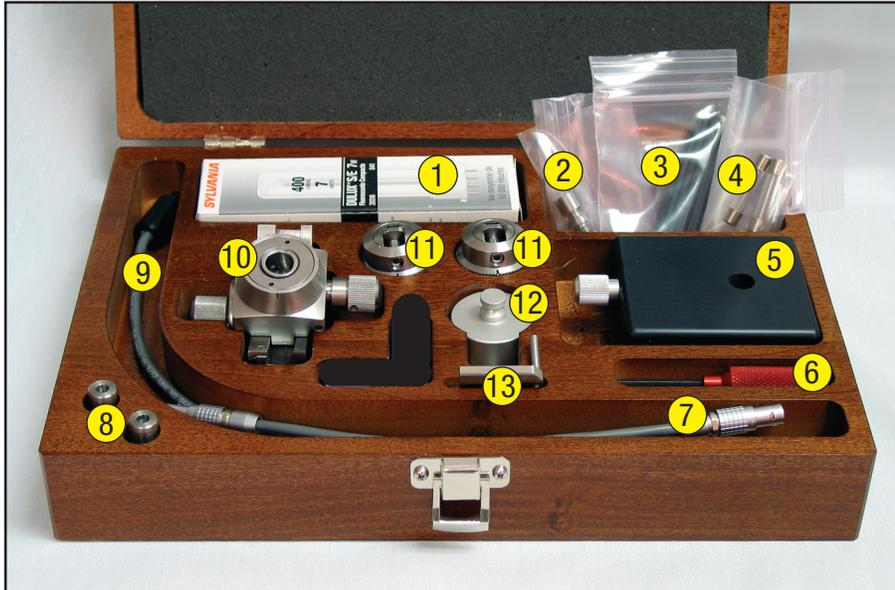

Figure 1: PowerTome Accessory Box
- *“Figure 1: PowerTome Accessory Box” on page 8*